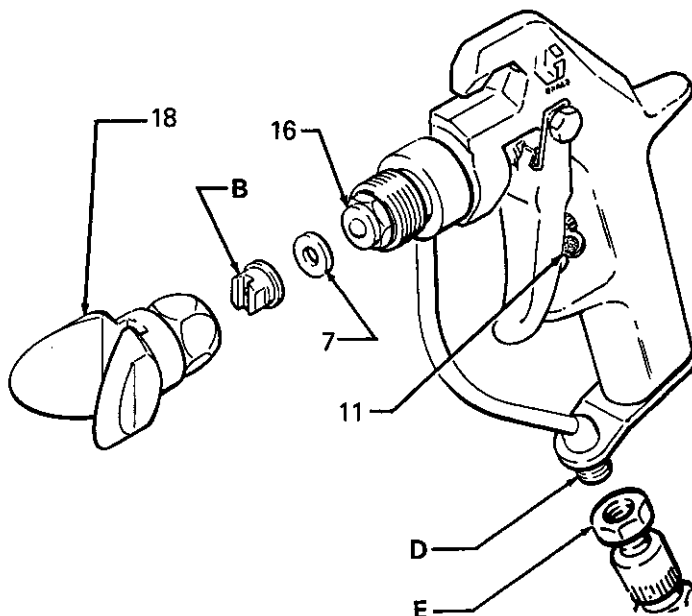

Fig 1
Unscrew the tip guard (18) and install the tip (B) with tip guard and tighten. BE SURE the gasket (7) is installed between tip and diffuser seat (16) to prevent leaking. See Fig 1. If you are using an accessory spray nozzle (see ACCESSORIES, page 6), install the appropriate tip in nozzle and screw nozzle assembly onto spray gun.